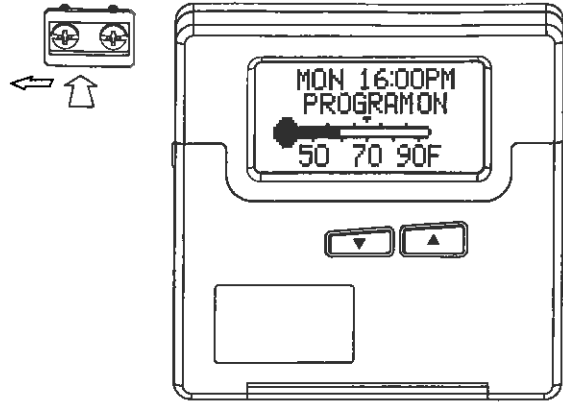

Figure 8
- 2 Slide the Wall Mount Programmable Transmitter onto the Wall Mount bracket as shown in figure 8.